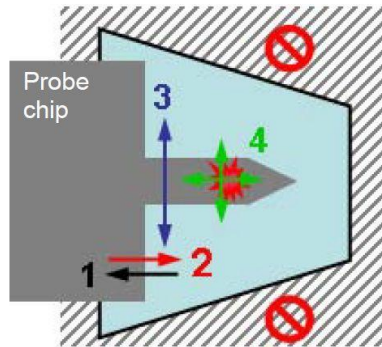
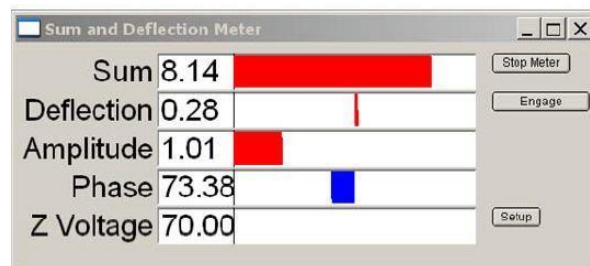

Figure 7. Laser alignment pattern.
Figure 8. Signal and Deflection meter.
5. Turn the laser adjustment thumbwheel on the right side (labeled **LDX**, Figure 6) clockwise until the laser spot disappears (moves back onto the AFM chip) (Figure 7, step #1). Note that the laser spot will also not be visible on the IR card if it is outside the transparent quartz window.
- Turn the **LDX** thumbwheel counter clockwise until the laser spot re-appear (Figure 7, step #2).
- Turn the laser adjustment thumbwheel on the backside of the AFM head (labeled **LDY**, Figure 6) (Figure 7 step #3) while monitoring the laser spot on the IR card. The laser spot intensity will be temporarily reduced when it crosses the cantilever beam and the **SUM** reading on the Signal and Deflection Meter (Figure 8) will increase significantly. Reverse the direction if the laser spot completely disappears (goes beyond the transparent window).
- Maximize the “**SUM**” reading by adjusting both **LDX** and **LDY** thumbwheels (Figure 7, step #4).
- Check the **Deflection** voltage signal in the Signal and Deflection (S&D) meter (Figure 8). It may show Red (positive) or Blue (negative) if the voltage is not zero.